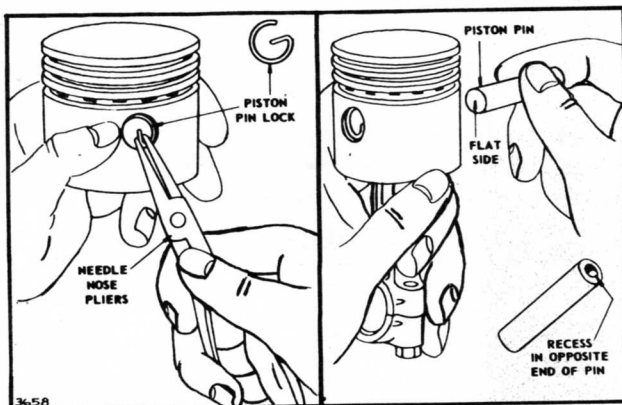

FIGURE 7-2
1. Use a thin nose pliers to pull the pin lock from the piston. Push the pin through the piston and rod to remove the rod. See figure 7-2.